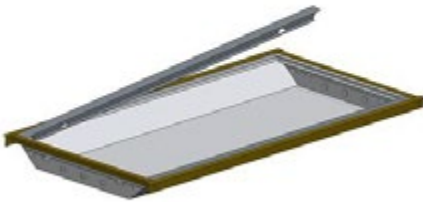

Fig.1.1
3. Slide Universal Frame bracket under the fixture and between the T-Bar.(Fig.1.1)